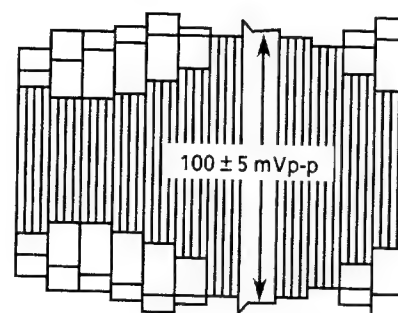

Figure 2-10
- (6) Adjust R321 so that the amplitude of sync tip portion is 100 mVp-p as shown in Figure 2-10.
- (7) Remove QCNW-6444GEZZ after adjustment. (Also remove connecting probe of TP301 and TP302.)